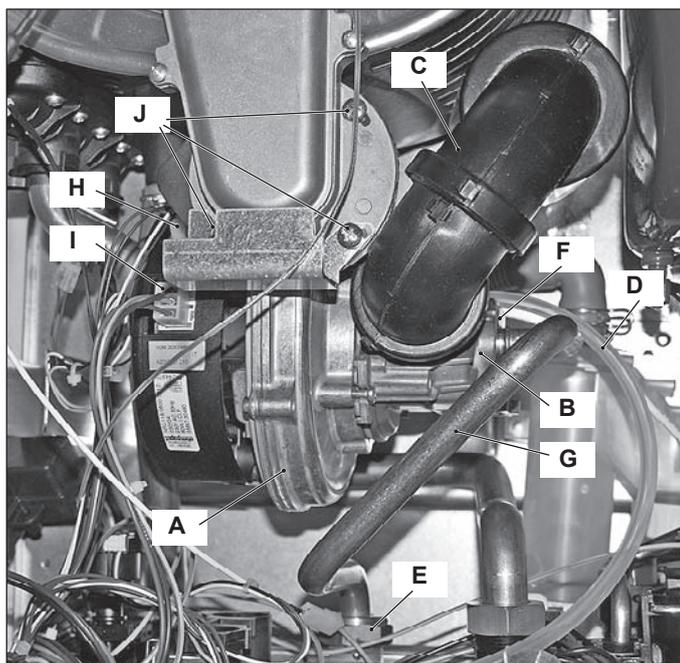

Figure 17.2
- 3 Disconnect the air manifold C (Figure 17.2).
**Before reassembling ensure the fan gasket (Figure 17.2) is correctly mounted.**